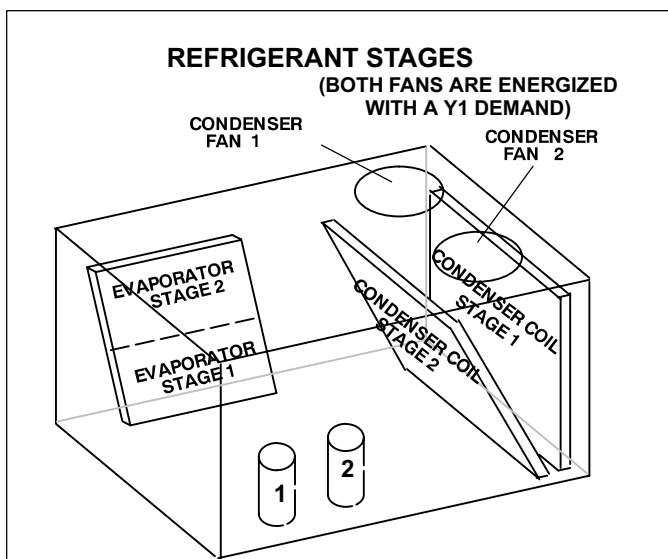

FIGURE 28
- 3- Units contain two refrigerant circuits or stages. See figure 28.